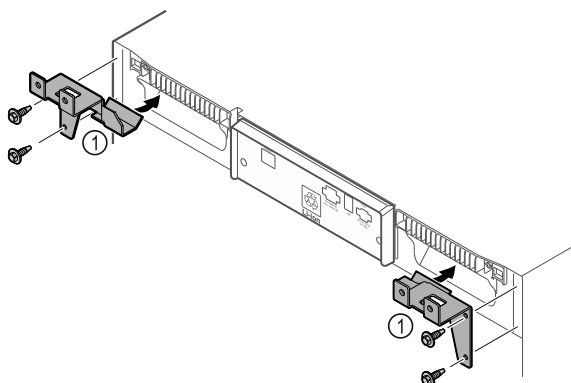

Fig. 9
- Fit the retaining parts Fig. 9 (1) to the device with self-tapping screws.